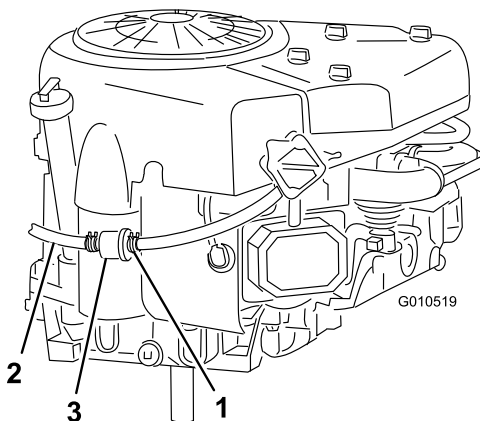

Figure 29
7. Squeeze the ends of the hose clamp together and slide it up the fuel line toward the fuel tank (Figure 29).
8. Pull the fuel line off the fuel filter (Figure 29) and allow the gasoline to drain into an approved fuel container or a drain pan.
10. Slide the hose clamp close to the fuel filter to secure both the fuel line and the fuel filter (Figure 29).
The best time to replace the fuel filter (Figure 29) is when the fuel tank is empty. Never install a dirty fuel filter after it has been removed from the fuel line.